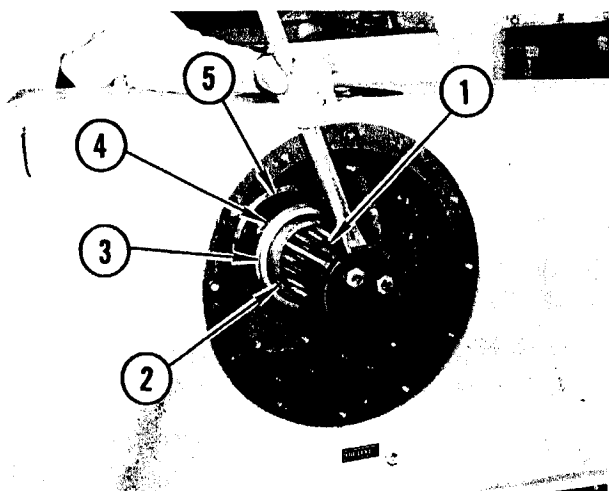

FIGURE 106. AXLE REMOVAL
Attach lockplate to end of final drive axle. Using a pry bar, Figure 106, remove final drive axle (1), spacer (2), grease seal (3), retainer (4) and bearing (5).